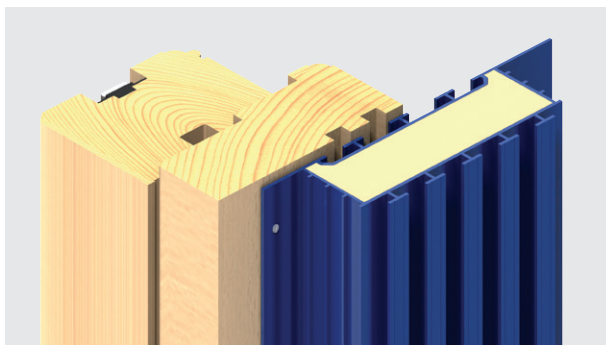

Figure 20: Kingspan Thermabate® pre-fixed to back of window frame
- Fix Kingspan Thermabate® to the window frame with appropriate fixings using the pre-drilled holes in the flange where applicable (Figure 20).